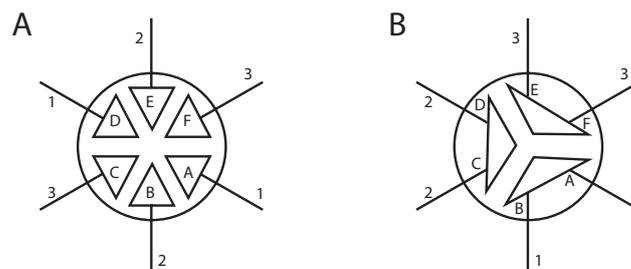

Fig. 8.e
- fill solenoid valve (Fig. 8.a part. 3 and Fig. 8.c part. 2). After having disconnected the cables and the tubing, remove the solenoid valve and make sure the inlet filter is clean; if necessary, clean with water and a soft brush;
- manifold with drain pump (Fig. 8.a part. 5). Check that there are no solid residues in the cylinder attachment, remove any impurities. Check that the gasket (o-ring) is not damaged or cracked, replace if necessary. Check that there are no solid residues in the drain hose;
- drain pump (Fig. 8.c part. 4). Disconnect the power supply, unscrew the fastening screws and remove any impurities (Fig. 8.a part. 6). Clean the tank from any deposits and check that the water flows freely from the tank to the drain (corresponding to the drain pump);
- tank (Fig. 8.a part. 1). Check that there are no obstructions or solid particles and that the conductivity measuring electrodes are clean, remove any impurities and rinse;
- internal pipe kit (Fig. 8.a part. 2 and Fig. 8.c part. 3). Check that the pipes and hoses are free and clear of impurities, remove any impurities and rinse.